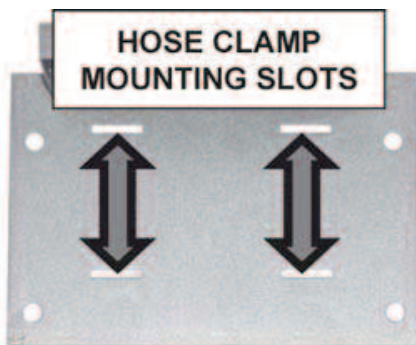

**Fig. 13: Poolstat Control**
1. Remove the poolstat control cover by removing the two cover screws at the top. See Fig. 13 & 14.